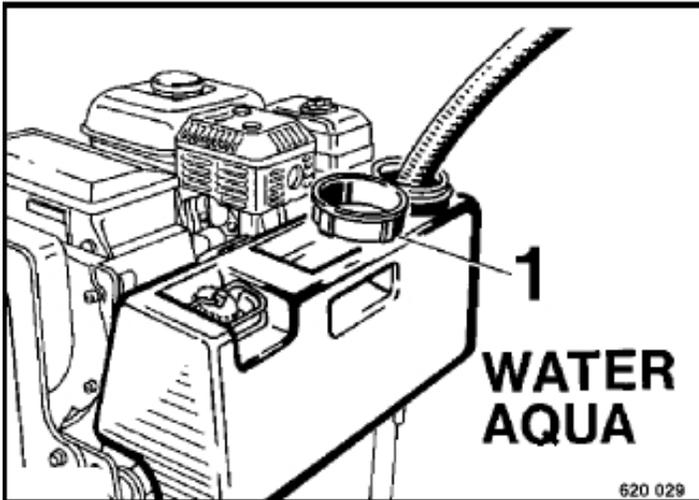

Fig. 31
- | Open the cover 1 (Fig. 31) and check the water level.